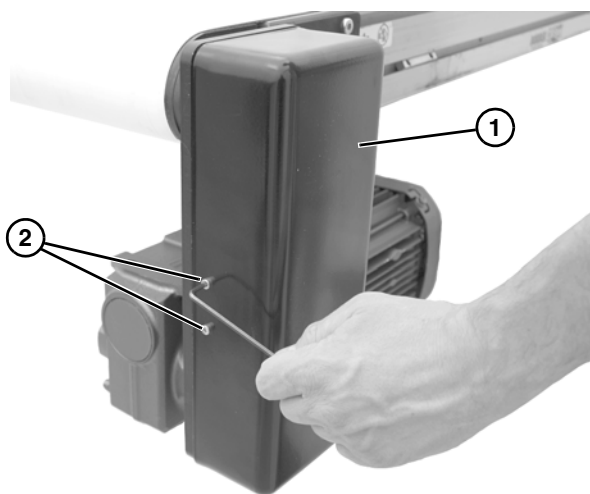

Figure 11
- Install cover (**Figure 11, item 1**) with four (4) screws (**Figure 11, item 2**). Tighten screws to 35 in-lb (4 Nm).